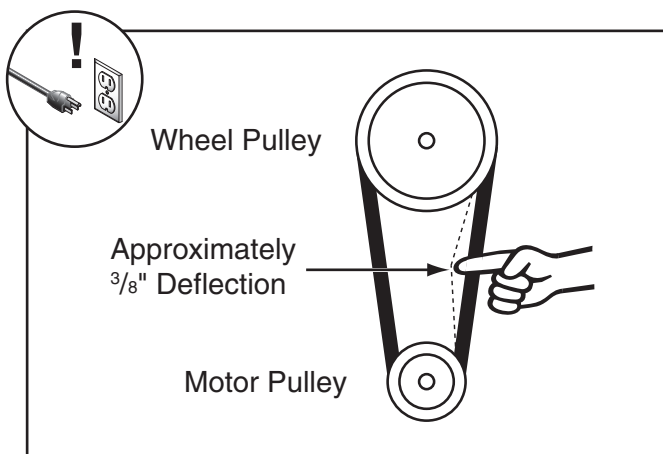

Figure 66. Checking belt tension.
3. Check belt condition and deflection. The belt is properly tensioned if there is approximately $\frac{3}{8}$ " deflection. Deflection is checked by pushing belt with moderate pressure, as shown in **Figure 66**, and noting how much it moves.